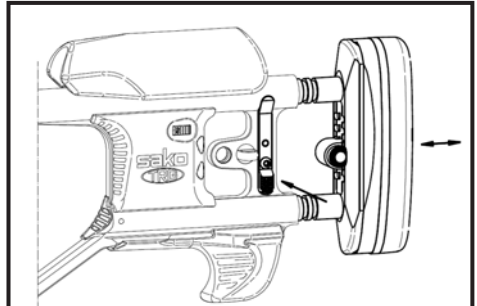

Fig. 24 - Adjustment of the length of pull
1. Press and hold the catch in the rear of the stock either from the left or right side of the rifle (Fig. 24).